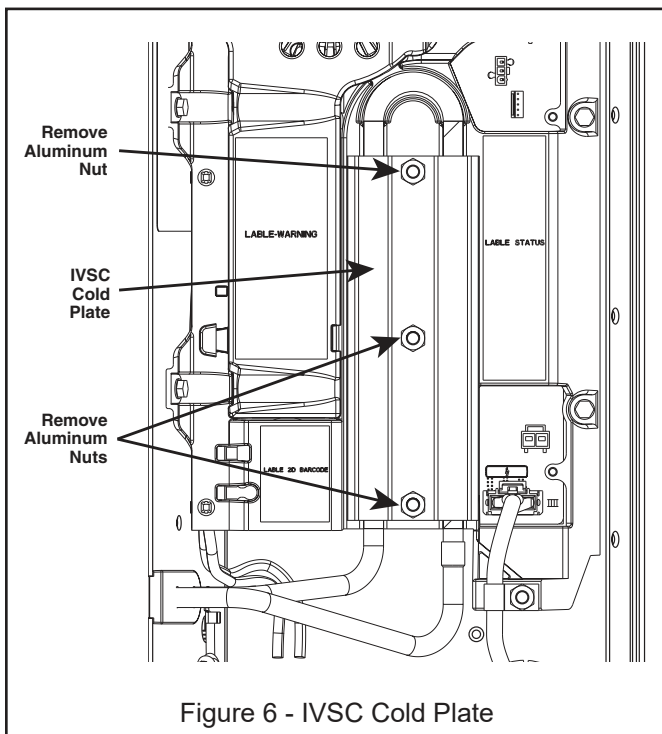

Figure 6 - IVSC Cold Plate
1. Remove the three Aluminum nuts securing the Cold Plate to the Drive Assembly (See "Figure 6 - IVSC Cold Plate") and set aside. You will use a Torque Wrench when reattaching Cold Plate to Drive.